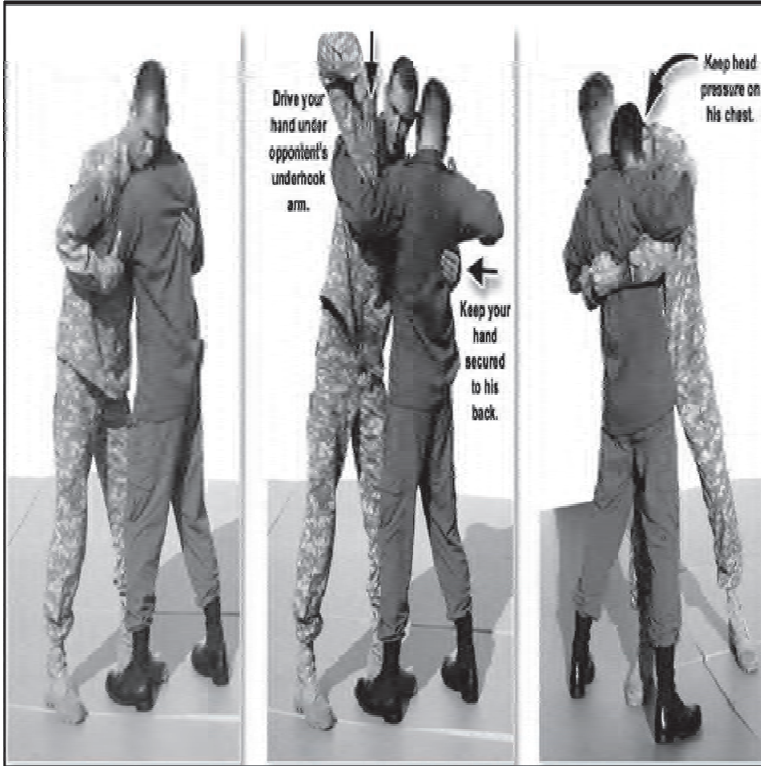

Figure 071-COM-0512-2. Double Underhooks Clinch.
(1) Raise one of his arms.
(2) Move yourself perpendicular to your opponent.
(3) Reach around your opponent's waist to grab his opposite-side hip.
(4) Pull his arm into your chest with your other arm.
(5) Control his arm at the triceps.
c. Achieve the Double Under-hooks Clinch. (Figure 071-COM-0512-2)